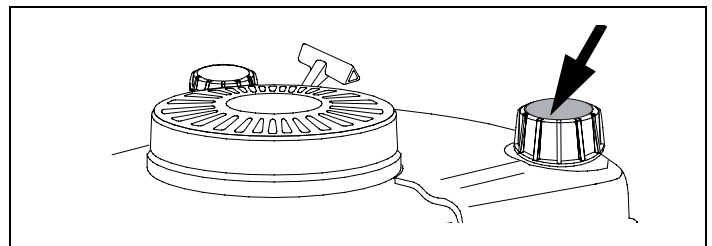

Figure 40. Fuel Fill Cap
2. Be sure fuel fill cap is on and tightened securely. See Figure 40.